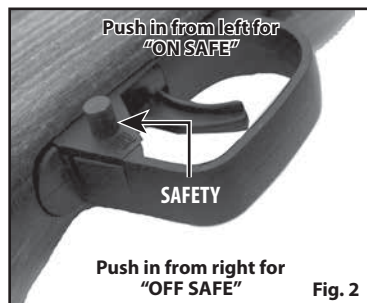

Fig. 2
- Locate the safety on the air rifle directly behind the trigger (Fig. 2).
- Push the safety from the left side in (Fig. 2) for "ON SAFE" until you hear a distinct click.